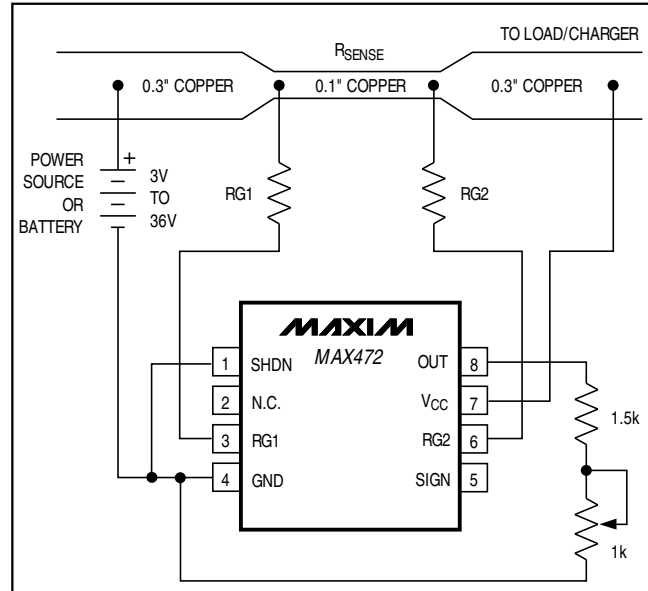

Figure 6. MAX472 Connections Showing Use of PC Board Trace
- Cost:** If the cost of R_{SENSE} becomes an issue, you may want to use an alternative solution, as shown in Figure 6. This solution uses the PC board traces to create a sense resistor. Because of the inaccuracies of the copper “resistor,” you will need to adjust the full-scale current value with a potentiometer. Also, the resistance temperature coefficient of copper is fairly high (approximately 0.4%/°C), so systems that experience a wide temperature variance should take this into account.
In Figure 6, assume the load current to be measured is 10A and that you have determined a 0.3 inch wide, 2 ounce copper to be appropriate. The resistivity of 0.1 inch wide, 2 ounce copper is 30mΩ/ft (see Note 4). For 10A you may want $R_{SENSE} = 5m\Omega$ for a 50mV drop at full scale. This resistor will require about 2 inches of 0.1 inch wide copper trace.